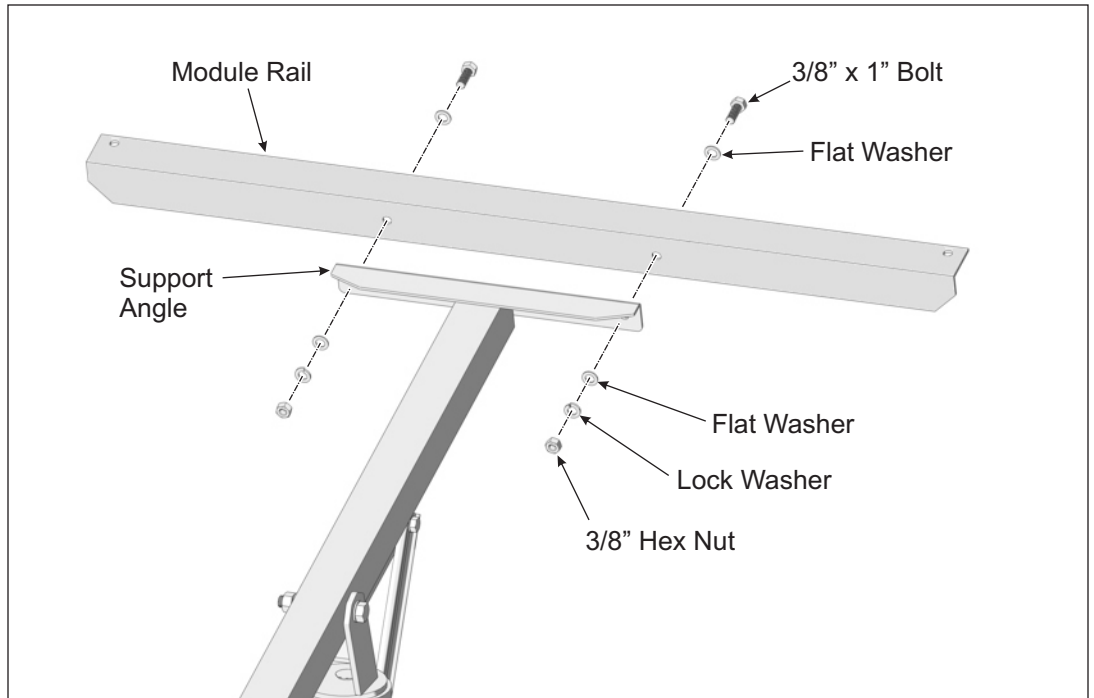

Figure 3-1: Attaching Module Rails
- A. Align the Module Rail mounting holes with the holes of the Support Angle and secure with 3/8" x 1" bolts and hardware. Finger-tighten for now. (See Figure 3-1)